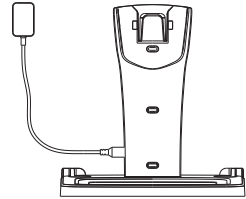

Fig. 5-1b
2. Insert the large end of adaptor into power outlet and then connect the power source well.(see Fig. 5-1b)